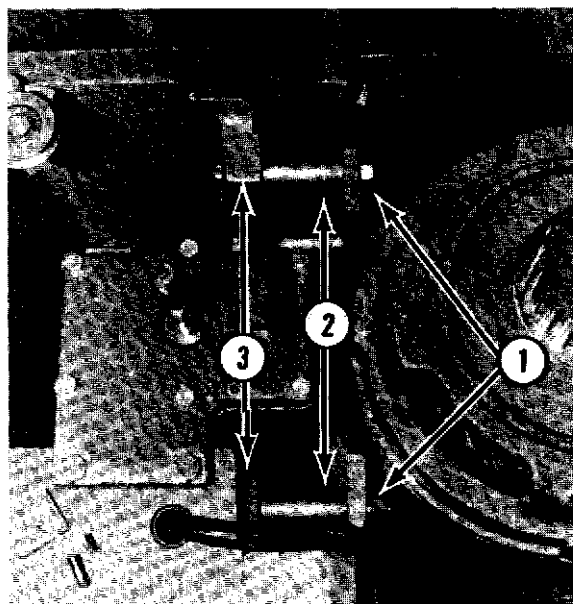

Fig. 8-9
- H. Loosen the two top motor mounting bolts (1, Fig. 8-9) and remove the shims. Note the location of each shim as they should be reinstalled in the same position which it was removed.
- B. Support the motor while installing the two top motor mounting bolts (1, Fig. 8-9). Do not tighten the bolts.
NOTE: Install the motor spacers (2, Fig. 8-9) on the V-1401.
- E. Install the shims (3, Fig. 8-9) in the same position from which they were removed.
NOTE: Install the spacers (2, Fig. 8-9) on the V-1401.